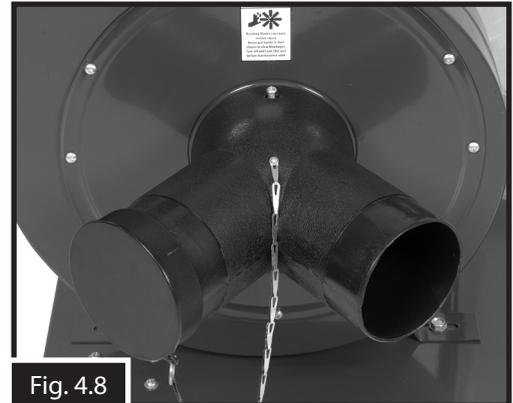

Fig. 4.8
10. Attach the inlet Y-connector to impeller cover with pre-installed Phillips head screw. (Fig. 4.8)